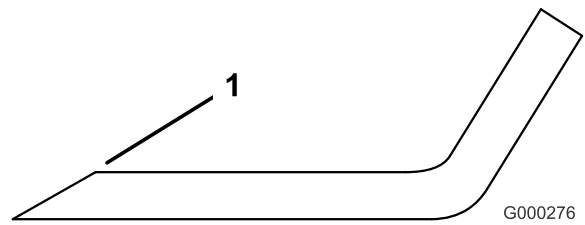

Figure 49
1. Use a file to sharpen the cutting edge at both ends of the blade (Figure 49). Maintain the original angle. The blade retains its balance if the same amount of material is removed from both cutting edges.